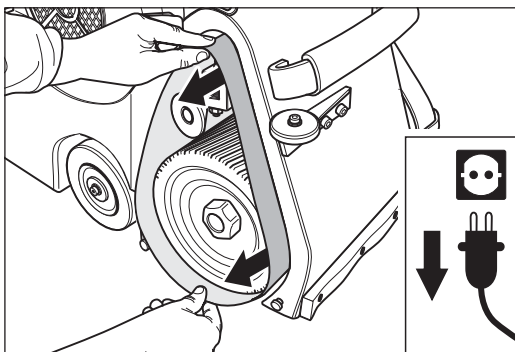

Fig. 28 Remove the sanding belt.
- 5 Remove the worn sanding belt from the tensioning roller and the sanding drum (Fig. 28).